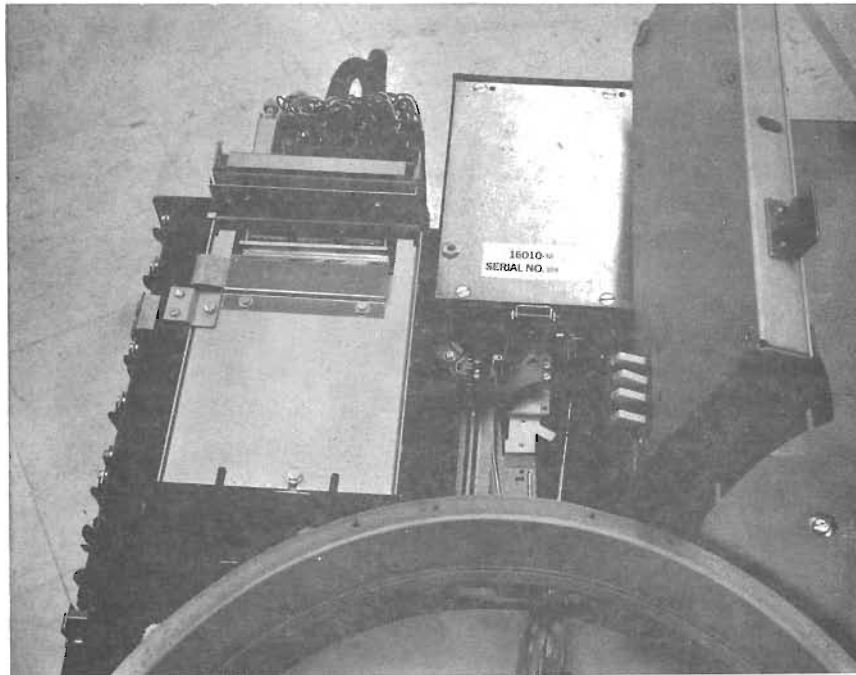

FIGURE 18
- 18) Remove the shipping clamp as demonstrated in Figure 18.